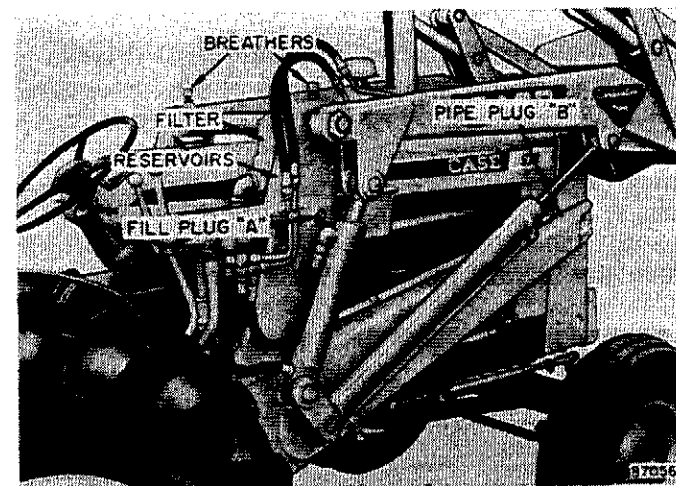

Figure 5 - Hydraulic Reservoirs
5. Remove pipe plug "A" from the right hand reservoir, see Figure 5.
The reservoir breather(s) are located on top of the hydraulic reservoir(s), see Figure 5 and 8. The breather(s) allow air to enter or escape the reservoir(s) as the cylinders are extended or retracted. To insure proper operation of the hydraulic system, the breather element should be cleaned in solvent after every 50 hours operation.